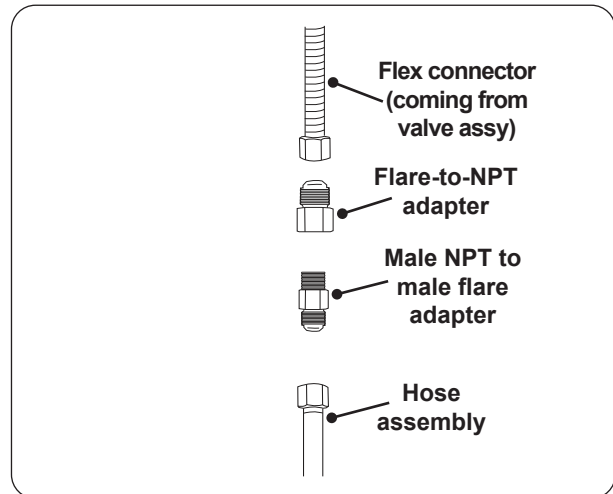

Fig. 32-1 Connecting flex to hose assy
1. Connect the L.P. regulator hose assembly (not included) to the flex connector that is coming off of the valve assembly (see Fig. 32-1).